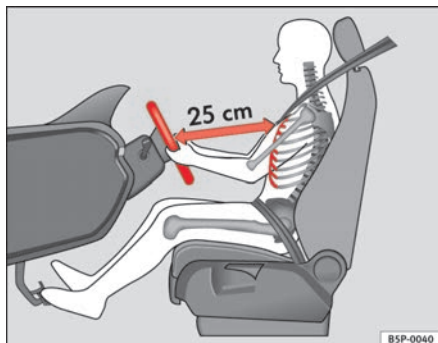

Fig. 1 The proper distance between driver and steering wheel
- Adjust the steering wheel so that there is a distance of at least 25 cm between the steering wheel and the centre of your chest ⇒ fig. 1.
<ul style="list-style-type: none"> • An incorrect sitting position of the driver can lead to severe injuries. • Adjust the driver's seat so that there is at least 25 cm distance between the centre of the chest and the centre of the steering wheel ⇒ page 10, fig. 1. If you are sitting nearer than 25 cm, the airbag system cannot protect you properly. • If your physical constitution prevents you from maintaining the minimum distance of 25 cm, contact a qualified workshop. The workshop will help you decide if special specific modifications are necessary. • When driving, always hold the steering wheel with both hands on the outside of the ring at the 9 o'clock and 3 o'clock positions. This reduces the risk of injury when the driver airbag is triggered. • Never hold the steering wheel at the 12 o'clock position, or in any other manner (e.g. in the centre of the steering wheel). In such cases, if the airbag is triggered, you may sustain injuries to the arms, hands and head. • To reduce the risk of injury to the driver during sudden braking manoeuvres or an accident, never drive with the backrest tilted far back! The airbag system and seat belts can only provide optimal protection when the backrest is in an upright position and the driver is wearing his or her seat belt properly. The further the backrests are tilted to the rear, the greater the risk of injury due to incorrect positioning of the belt web or to the incorrect sitting position! • Adjust the head restraint properly to achieve optimal protection. ■